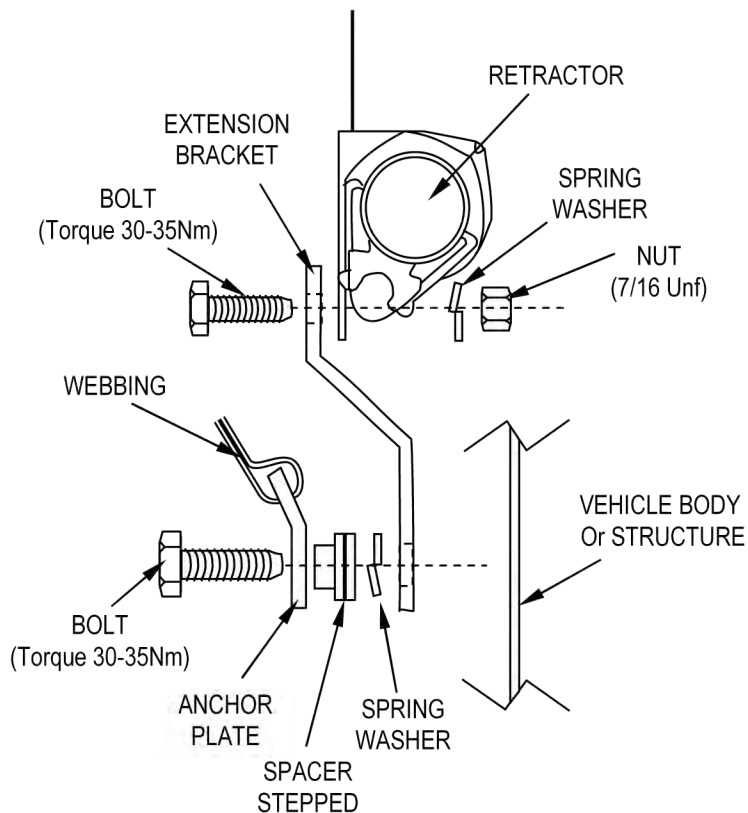

FIGURE 2
- Attach the Mounting Bracket to the retractor as shown in Fig. 2.
- Where required the anchor plate can also be attached to the Mounting bracket as shown. (Fig. 2).